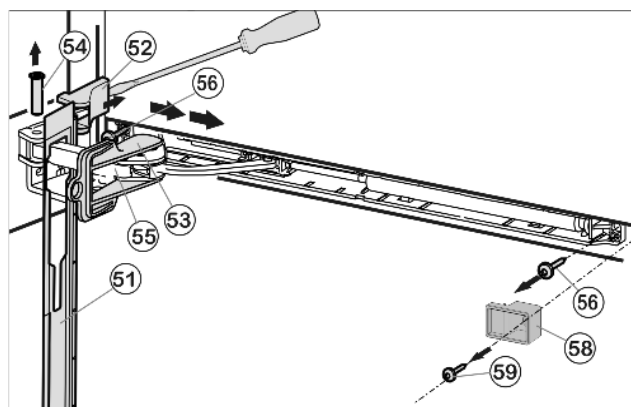

Fig. 26
- ▶ Push panel forwards over the damper bracket *Fig. 26 (55)* in the direction of the appliance.
- ▶ Engage locking device *Fig. 26 (53)* into place inside oblong hole.
- ▶ Lift off cover *Fig. 26 (52)* from the outside using a screwdriver and remove by pulling outwards.
- ▶ Push bolt *Fig. 26 (54)* out from below.
- ▶ Press damper bracket *Fig. 26 (55)* in the direction of the door.
- ▶ Remove panel *Fig. 26 (51)*.
- ▶ Unscrew spacer *Fig. 26 (58)*.
- ▶ Unscrew entire soft stop unit (2 x Torx 15) *Fig. 26 (56)*.